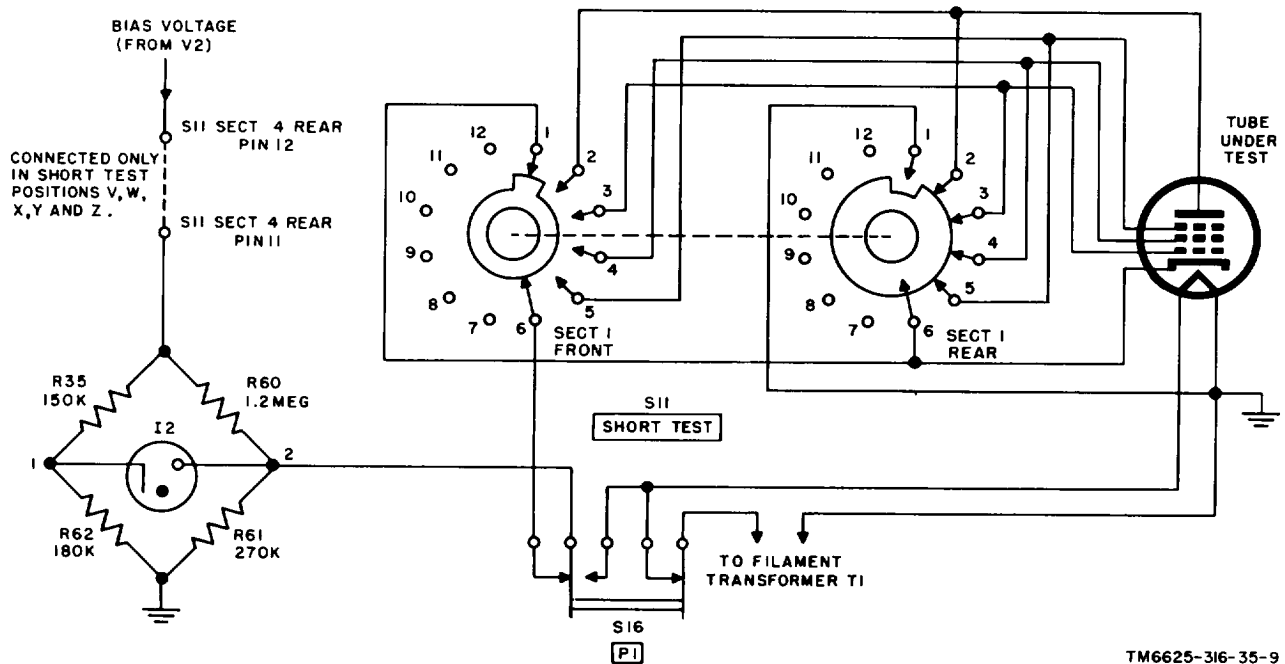

Figure 9. Short and filament continuity test circuit of Test Set, Electron Tube TV-2(\*)/U, simplified schematic diagram.
(figs. 9 and 26)
a. A simplified schematic diagram of the circuit used for detecting interelement shorts in the tube under test is shown in figure 9. A portion of the bias voltage is taken from bias rectifier tube V2 and applied to a bridge network formed by resistors R35, R60, R61, and R62. The voltage at point 1 is constant and depends only on the bias supply voltage and on the values of resistors R35 and R62. The voltage at point 2 is a function of the bias supply voltage and the values of resistors R60 and R61. When no elements of the tube under test are short-circuited, the difference in potential between points 1 and 2 is below the striking voltage of FIL. CONT. SHORT lamp 12. When there is a short circuit between elements of the tube under test, the voltage at point 2 is reduced. Because the voltage at point 1 is constant, the difference in
The filament continuity test circuit of Test Set, Electron Tube TV-2(\*)/U provides visual indication of filament continuity of hot-cathode electron tubes, ballast tubes, and indicator lamps. The action of this circuit is identical with that of the short test circuit (par. 9); a simplified schematic diagram is shown in figure 9. The operation of PRESS TO TEST PI switch S16 connects the filament or filaments of the tube under test across resistor R61 and removes filament voltage from the tube. If the filament is closed, its low resistance, placed in parallel with FIL. CONT. SHORT lamp I2, will increase the voltage across lamp I2 and the lamp will light. If the filament of the tube under test is open, the voltage across lamp I2 is too low for the lamp to light.